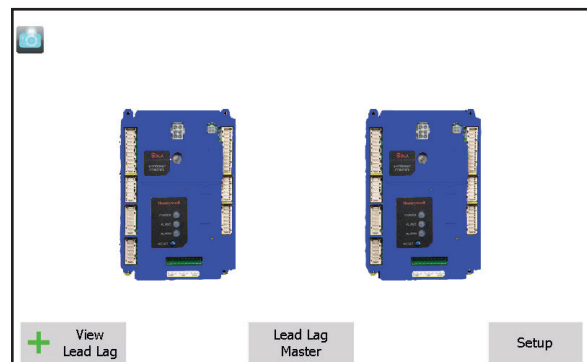

Fig. 111 – ‘home’ screen
1. From the ‘home’ screen (Fig. 111), press the View Lead Lag button.